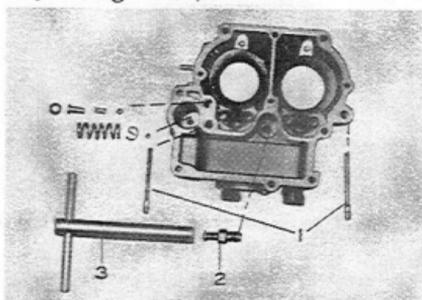

Fig. 5-69 Removing Slow Jets and Power Valve 01908
d. Loosen and remove the two slow jets (1). (Fig. 5.69)
If necessary to remove the power jet, loosen and remove the power jet from the power valve. (Fig. 5.69)